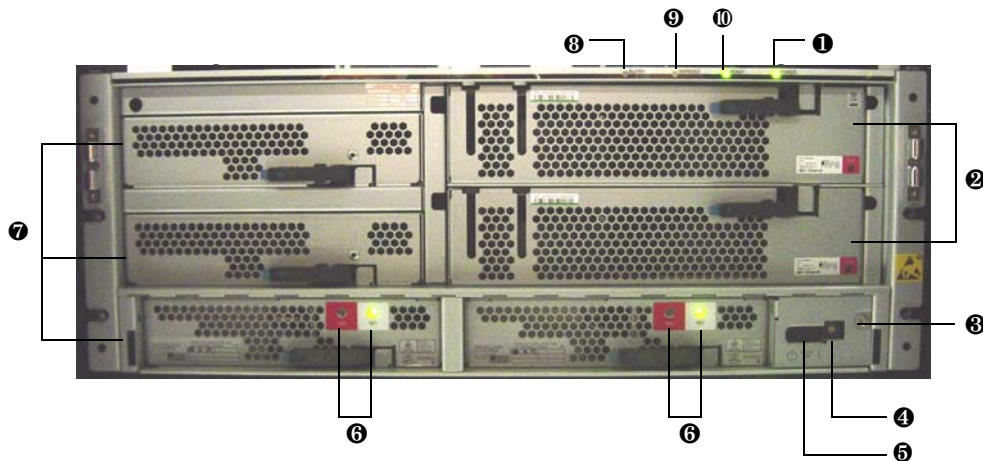
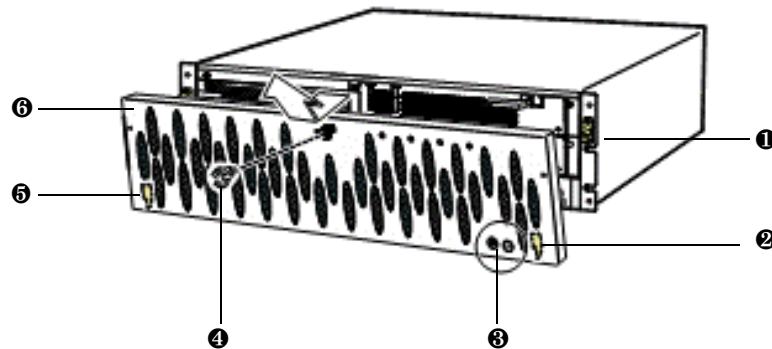

Figure 1-9: Front View of Base Unit (Front Bezel Removed)
Figure 1-10: Attaching the Front Bezel
- b. Press the **Power** switch on the lower right side of the front panel of the base unit to the ON position (see Figure 1-9 and Figure 1-10 on page 15):
- a. Locate the two hooks on the front of the bezel, one on the lower right side and one on the upper right side (see Figure 1-10).